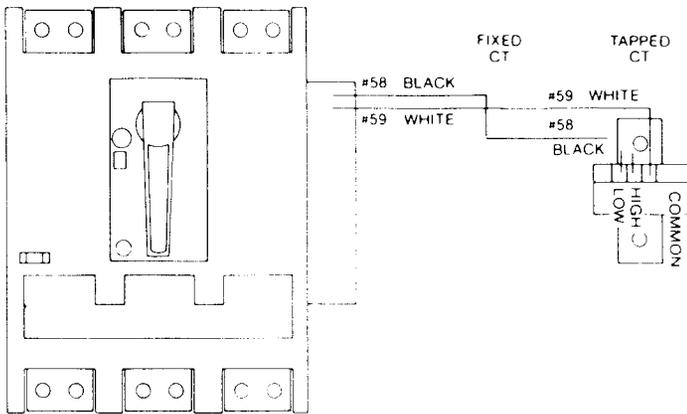

FIG. 13
4. Programmers providing the ground fault function must also have the tap setting changed on the tapped neutral CT (4 wire systems). Change the black wire lead from the HIGH (LOW) terminal to match the desired tap setting of the breaker frame. (Fig. 13).
Wire as shown in Fig. 13.